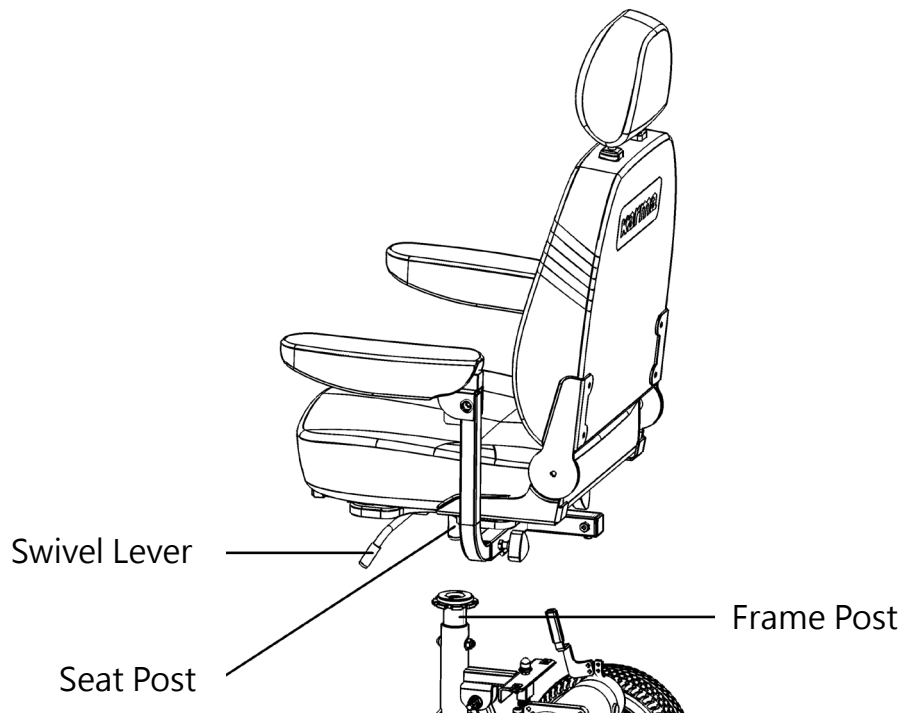

Figure 9.1
9.7.1 Lift the swivel lever all the way up. (See Figure 9.1.)